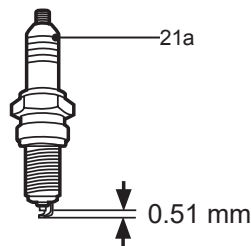

Fig. 33
6. Check the spark plug gap. It should be 0.51 mm (Fig. 33).
8. When replacing the spark plug (21a), first screw it in hand tight and then tighten it to 20-25N.m with the spark plug wrench (37).